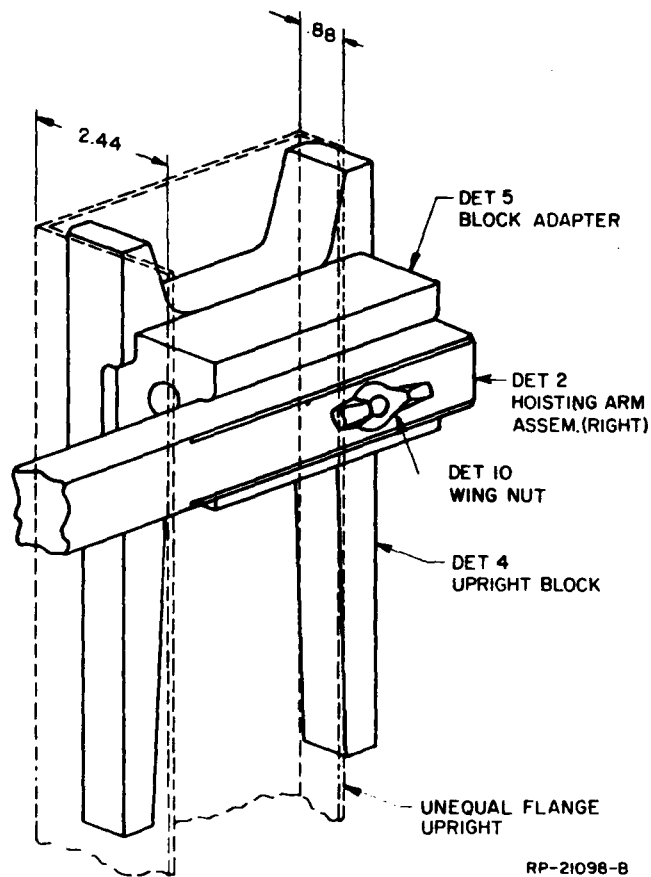

FIG. 4 ARRANGEMENT FOR UNEQUAL FLANGE UPRIGHT
4.322 For frames with unequal flange uprights, use the long butterfly upright bolt, Detail 9. Secure the Detail 5 block adapter to the Detail 4 upright block with the Detail 31 adapter bolt. See Figures 4 and 5.